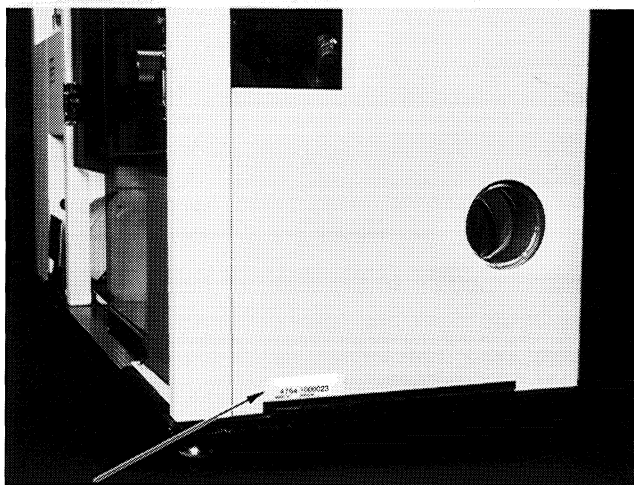

Figure 2-4
13. Locate the serial number label found on the right side of the instrument, in the lower front corner (Figure 2-4); a duplicate label is also found on the rear of the instrument. Write the installation date, model number, and instrument serial number on the Warranty Registration Card found in the front of this manual. Also write the installation date, model number, and serial number in the spaces provided in the "Preservice Checklist" in Section 9. Completely fill out the Warranty Registration Card and mail.